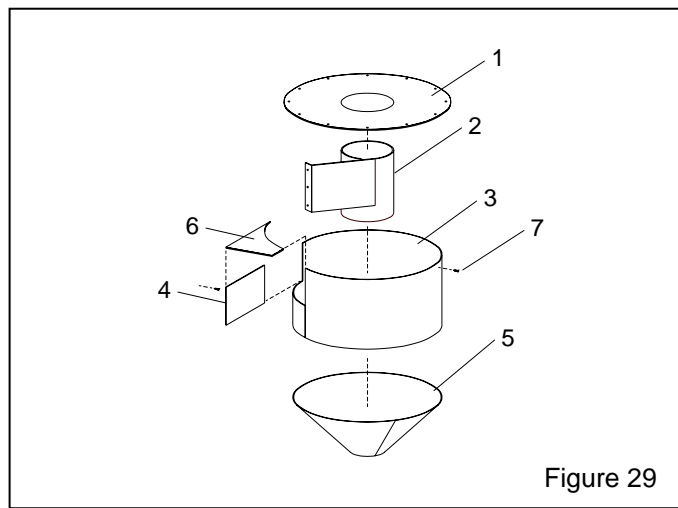

Figure 29
**9.9 Rubber Liners, Figure 29**